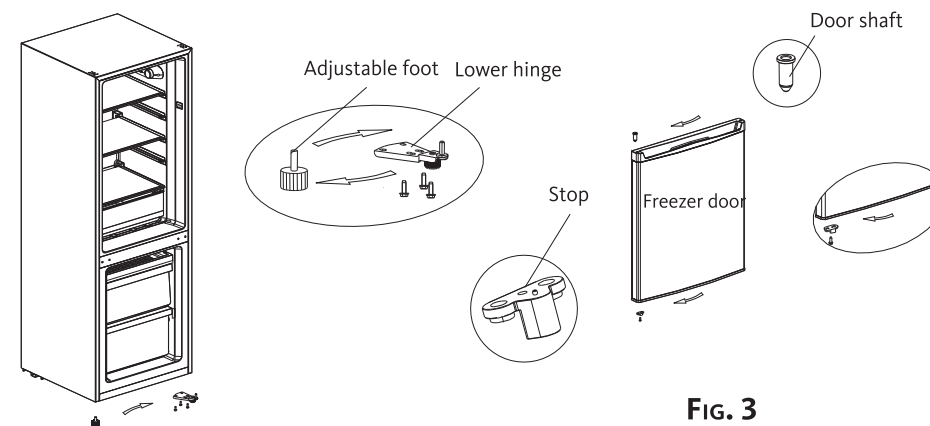

FIG. 3
3. Remove the door from the freezer compartment. Tilt the appliance backwards. Remove the 2 front feet that are adjustable in height, then remove the lower hinge (see figure 3).
4. Fit the lower hinge assembly and adjustable feet on the other side. Then, fit the door shaft and the freezer door stop on the other side (fig. 3).